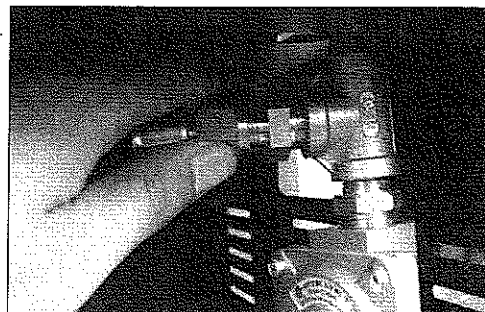

Fig 21
29. Attach the other end of the side burner hose to the Connector 3/8" NPT x 5/8" UNF. (See Fig. 21)